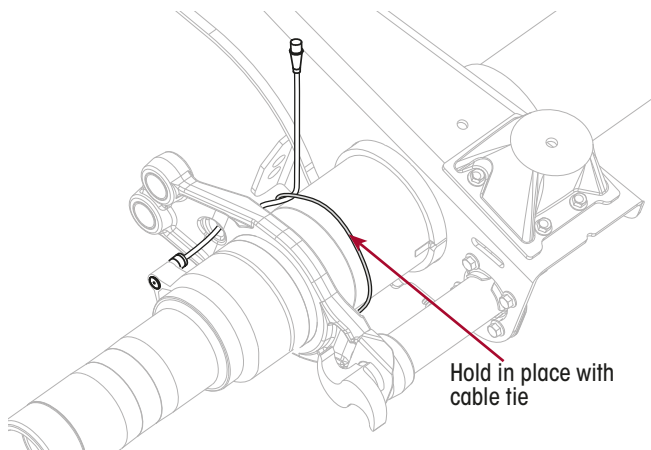
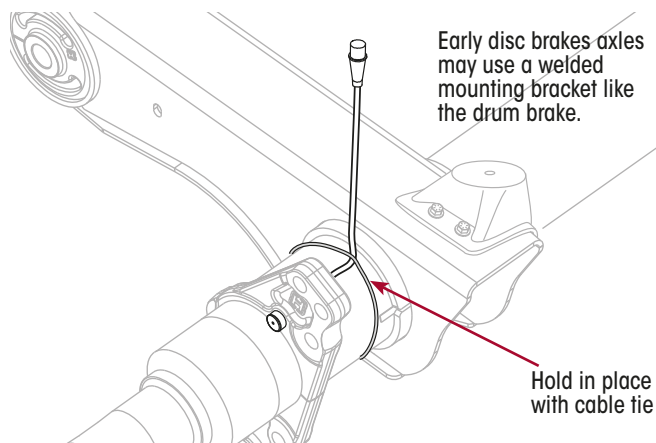
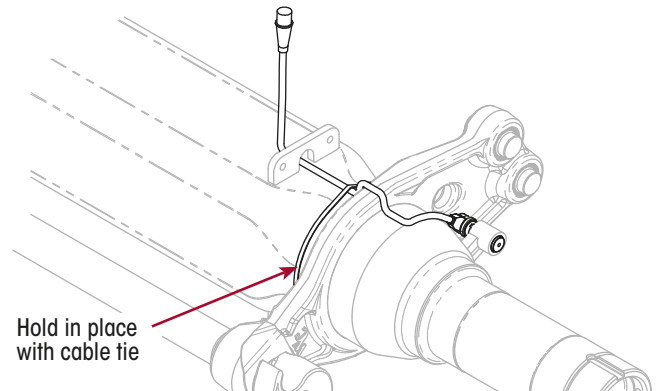

Figure 112: Drum Brake Straight ABS Sensor Installation
Figure 113: Disc Brake Straight ABS Sensor Installation
Figure 114: Drum Brake 90° ABS Sensor Installation
1. Install sensor sleeve by compressing the outer diameter of the sleeve until sleeve can be inserted into the inner diameter of the ABS sensor bracket. For later disc brake axles, the sensor should be installed into the fourth opening in the brake spider (i.e. not the calliper mounting hole). Insert the sleeve from the inboard side of the axle and press sleeve toward the outboard end of the axle until the bent over tabs on the sleeve contact the end of the ABS bracket tube. Refer Figure 112, Figure 113 and Figure 114.
- Straight Sensor Drum: Feed sensor cable through the opening in the brake spider plate behind the sensor and through opening in dust shield. Refer Figure 112.
- Straight Sensor Disc: Tie sensor cable to ensure it does not foul during suspension movement. Refer Figure 113.
- Right-Angle Sensor Drum: Feed the sensor cable around the brake spider and through the opening in the dust cover or dust cover flange as shown. Refer Figure 114.